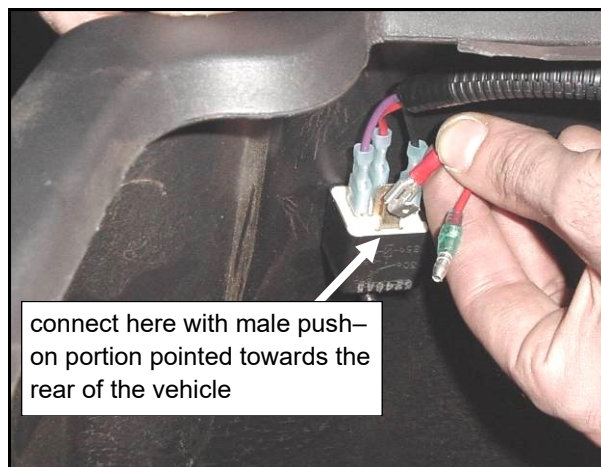
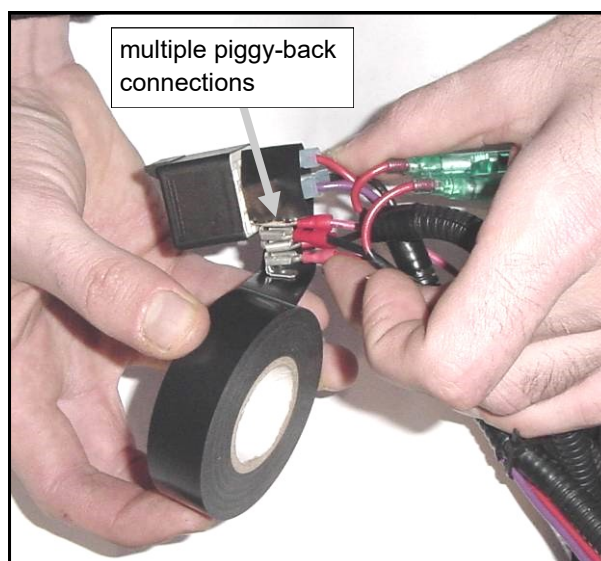

Fig. 7.4 (view from rear of vehicle)
Fig. 7.4.1 (wrap with tape)
7.4 Per fig. 7.4, connect the piggy-back terminal on the end of the switch harness (the harness that runs under the floor mat) to the rear-most available prong. If the prong is already occupied by another accessory, connect to the piggy-back terminal that is already in place. Orient the wire so the bent male push-on connector points to the rear of the vehicle (this will make connection easier if adding on additional accessories now or in the future). Note: if there are multiple piggy-back connections, one wrap of electrical tape around the terminals will secure them in place. See figure 7.4.1.